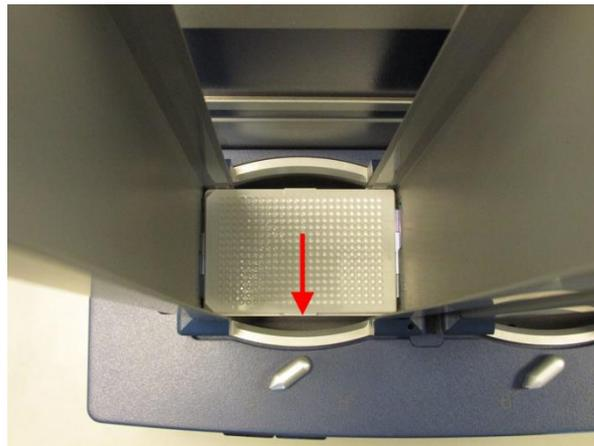

Figure 14
3. Click the 'Get plate' button and watch the plate moving down (from the same angle of view, as shown in Figure 14).